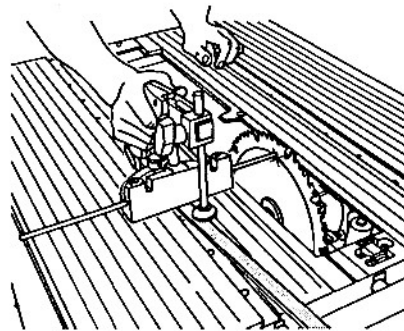

Fig. B-20
21. Remove the miter gauge, as seen in Fig. B-20.